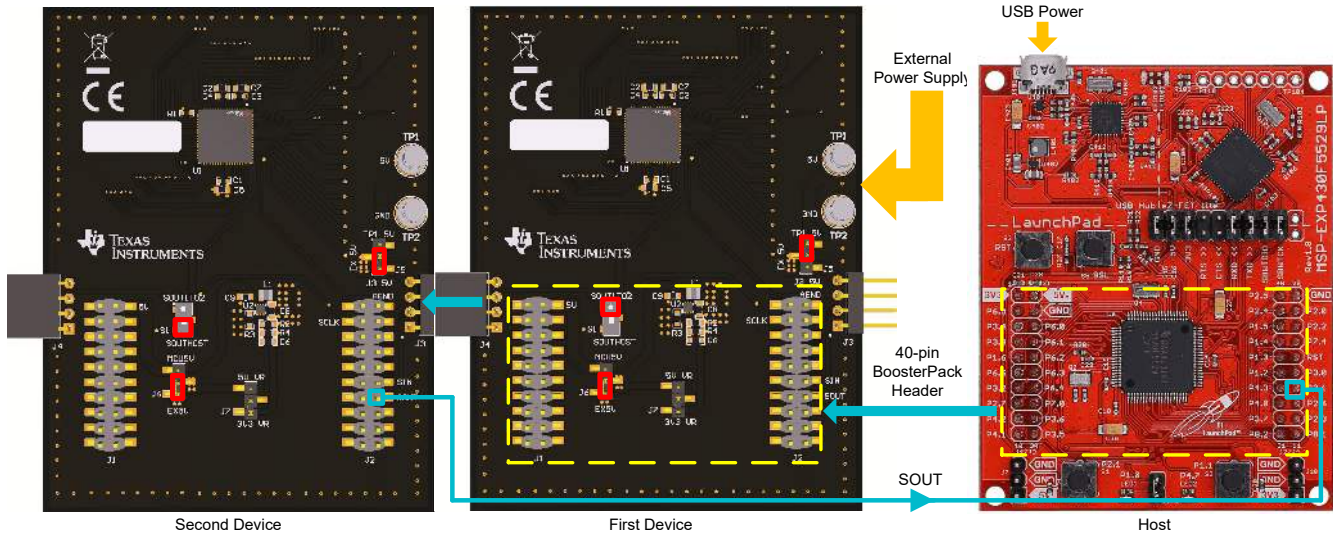

Figure 3-3. Dual Cascaded LP5891EVM Connected with the MSP430F5529 LaunchPad
2. For the first LP5891EVM, put the J5 jumper on "TP1 5V" and "EX 5V". Then put the J6 jumper on "EX5V" and the middle. Set the switch S1 towards "SOUT1TO2". These setups are marked with red boxes on the "First Device" in Figure 3-3.
3. For the second LP5891EVM, put the J5 jumper on "J3 5V" and "EX 5V". Then put the J6 jumper on "EX5V" and the middle. Set the switch S1 towards "SOUTHST". These setups are marked with red boxes on the "Second Device" in Figure 3-3.
4. Connect BoosterPack connectors (J1, J2) on the first LP5891EVM with the MSP430F5529 LaunchPad, the connection method is shown in Figure 3-3.
5. Connect the J4 connector of the first LP5891EVM to the J3 connector of the second LP5891EVM. The direction is shown in Figure 3-3.
6. (Optional) Connect the SOUT pin of connector J2 on the second LP5891EVM to the P3.1 pin of connector J4 on the MSP430F5529 LaunchPad through an additional 1-pin cable that is marked as the bottom blue line in Figure 3-3. This step enables LP5891EVM to report LOD (LED Open Detection), and LSD (LED Short Detection) out to the host MSP430F5529 LaunchPad.